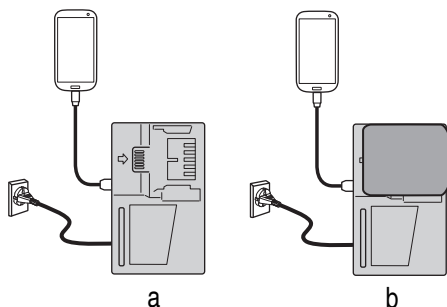

Fig. 39
- Charging a USB device from a electrical outlet (Fig. 39-a).
- Charging a USB device and battery from a electrical outlet.(Fig. 39-b)